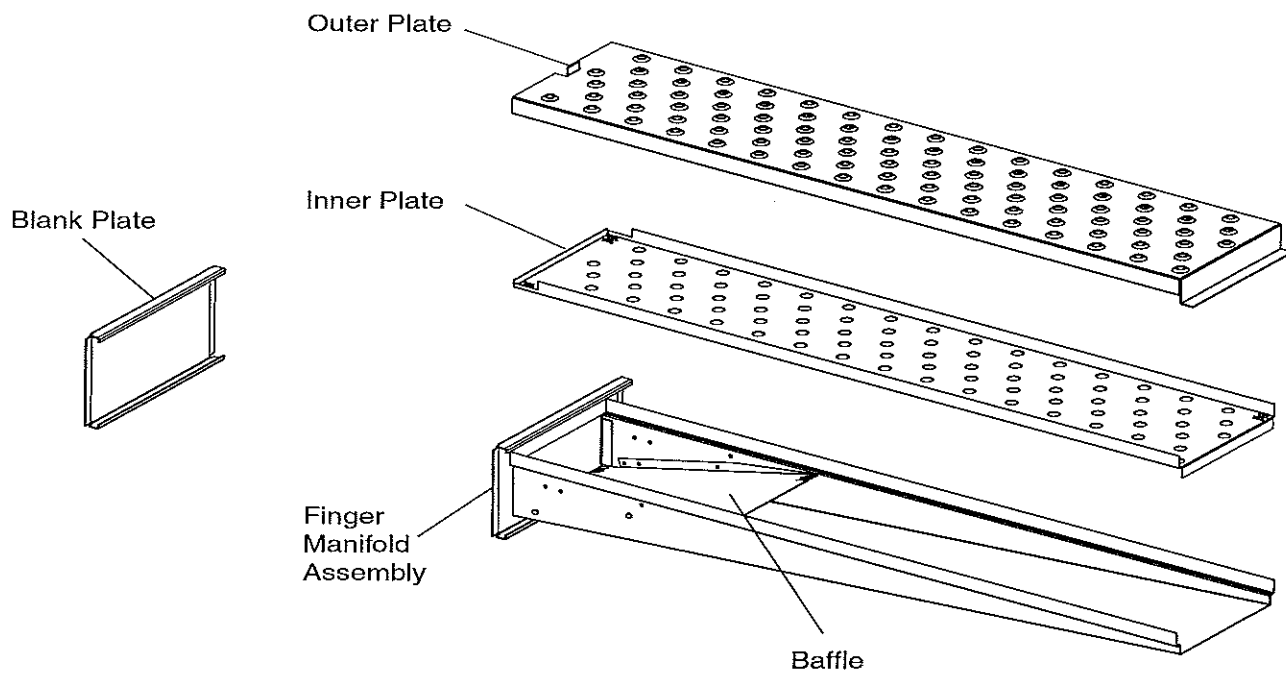

Figure 1-7. Blank Plate and an Air Finger.
E. Air Fingers and Blank Plates - See Figure 1-7